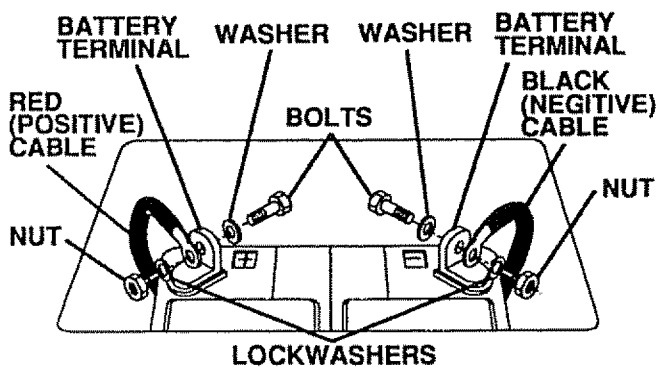

FIGURE 5
- Connect **RED** battery cable to positive (+) battery terminal with hex bolt, flat washer, lockwasher and hex nut (shown full size on pg. 6) found in bag of parts. Tighten securely with two 7/16" wrenches (Fig. 5).
- Connect **BLACK** ground cable to negative (-) battery terminal with remaining hex bolt, flat washer, lockwasher and hex nut (shown full size on pg. 6) found in bag of parts. Tighten securely. (Fig. 5)